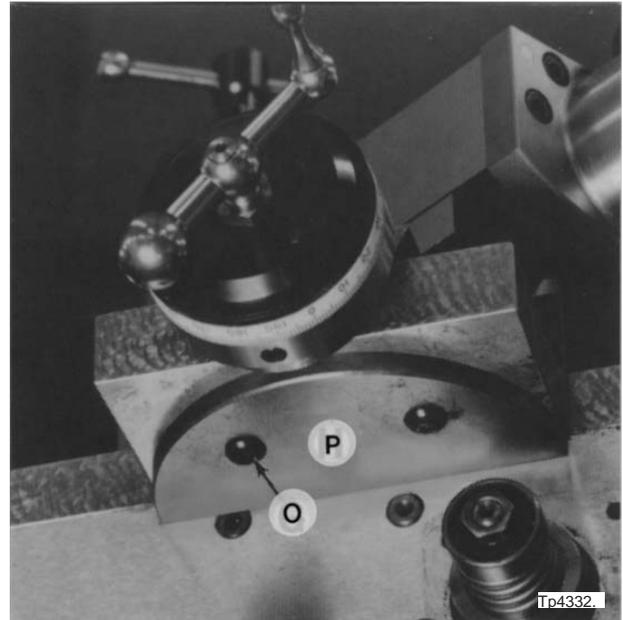

Figure 1.5 - Carriage Cover
Do not misplace the seal under cover "P", Figure 1.5 .
10. Remove two screws "O" and cover "P", Figure 1.5 .